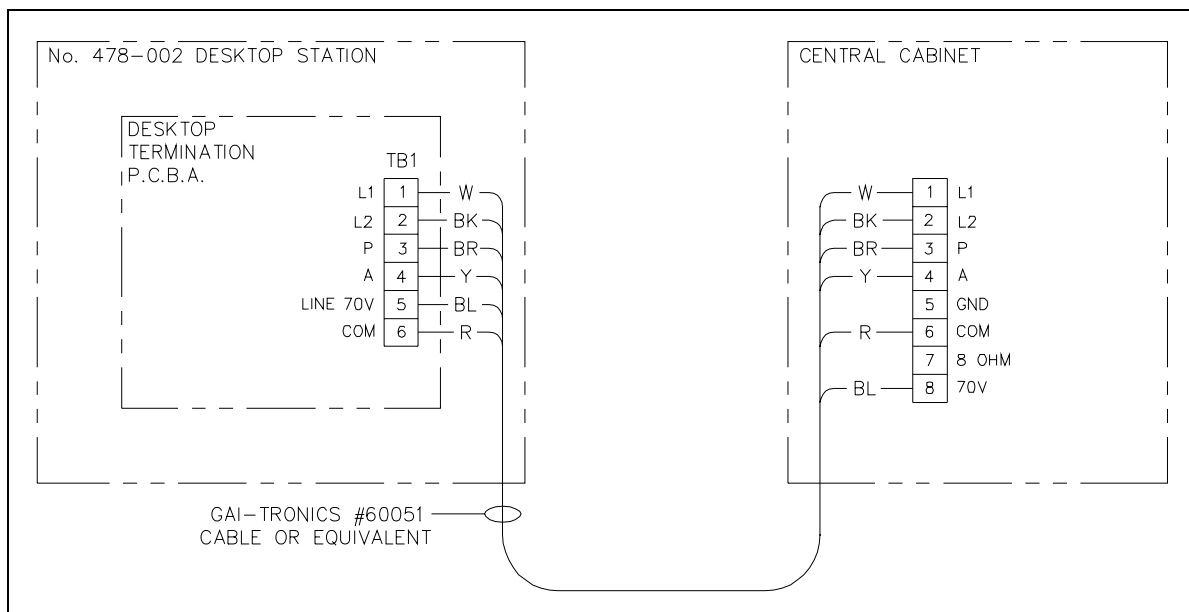

Figure 2. Subset Wiring for Centra-Page
2. Hinge the housing forward, being careful of the harness still interconnected. This provides access to the termination blocks on the PCBA (mounted on the subset base assembly as shown in Figure 2).